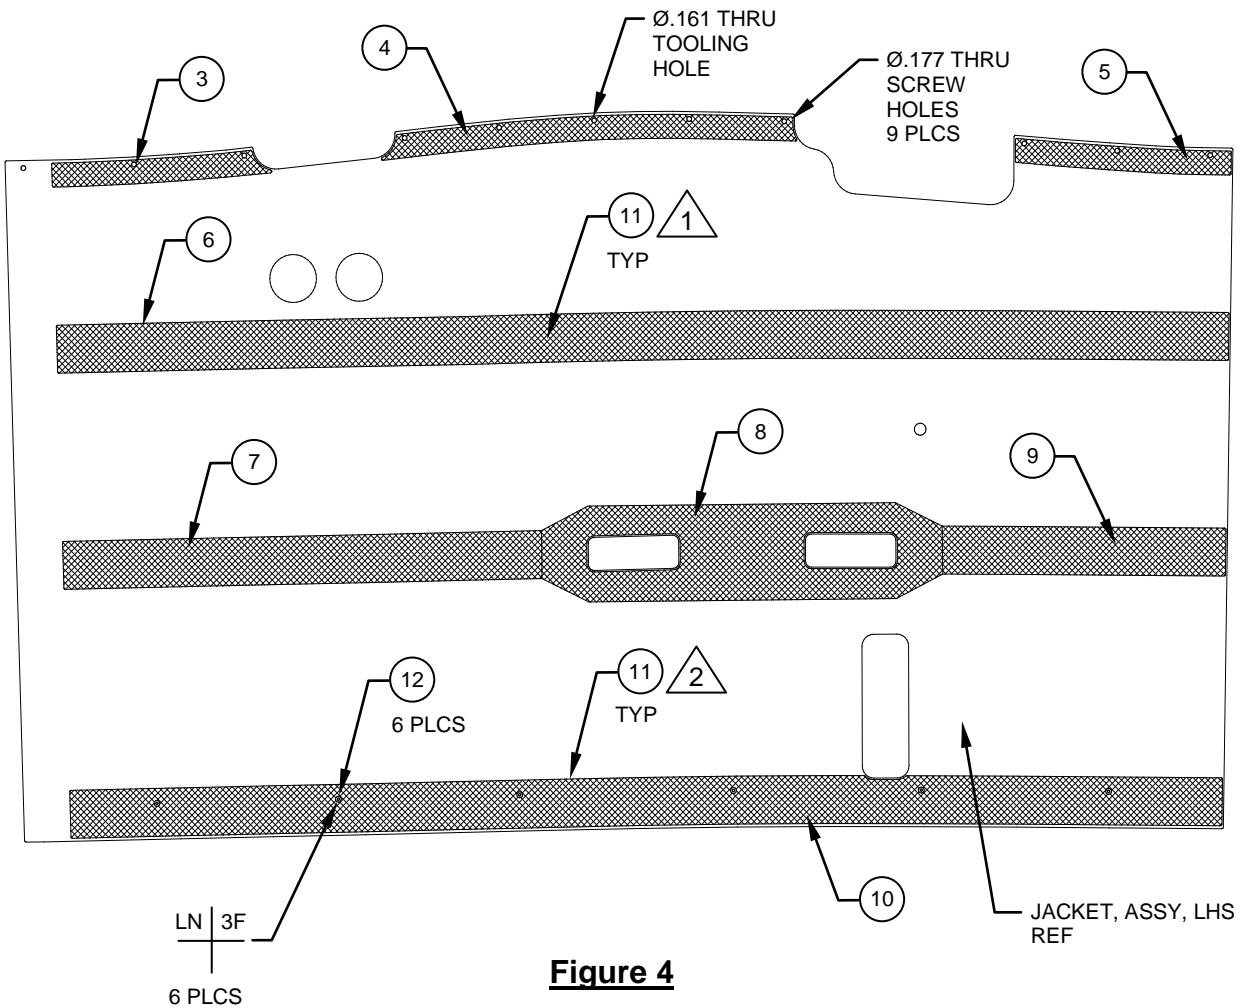

Figure 4
6. Apply the Sealant (Item 11) to the faying surfaces of Refrasil Tape, Details (Item 3, 4, 5, 6, 7, 8, 9, 10). Reference Figure 4.
7. Adhere the Refrasil Tape, Details (Item 3, 4, 5, 6, 7, 8, 9, 10) to the Jacket, Assy using the masking tape installed in step 1 as a reference. Apply a fillet of Sealant (Item 11) around all Refrasil Tape, Detail edges as shown. Remove and disregard the masking tape installed in step 1. Allow the Sealant to fully cure. Reference Figure 4.
8. Back drill the Jacket, Assy, LHS rivet holes into the Refrasil Tape, Detail, AFT (Item 11). If applicable, back drill the Wear Strip, Detail (Item 1) rivet hole into the Refrasil Tape, Detail, AFT. Rivet the Refrasil Tape, Detail, AFT in position as shown. Reference Figure 4.
9. Back drill the Jacket, Assy, LHS tooling hole and screw holes into the Refrasil Tape, Details (Item 3, 4, 5) as shown. Reference Figure 4.